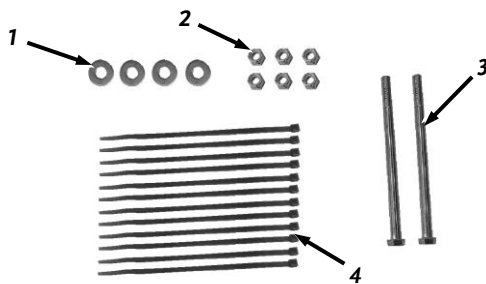

Figure 3
- Hardware Package (*see Figure 3 and Table below*)
Hardware Package (Figure 3):